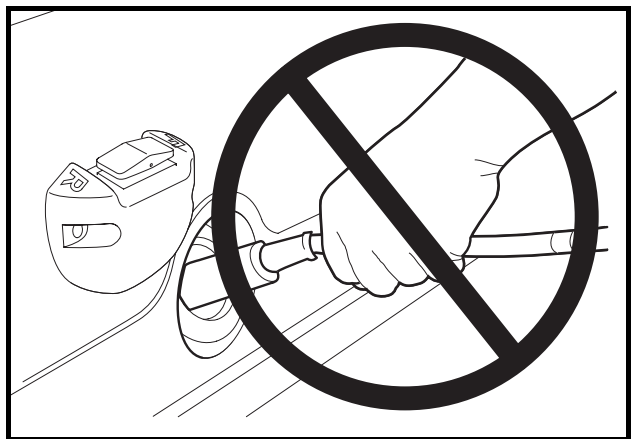

Figure 28 Incorrect Removal of Charger DC Plug
- Do not pull on the DC cord (Figure 28, Page 41). Do not twist, rock or bend the plug. To disconnect the charger plug from the vehicle receptacle, grasp the plug by the handle and pull the plug straight out of the receptacle.